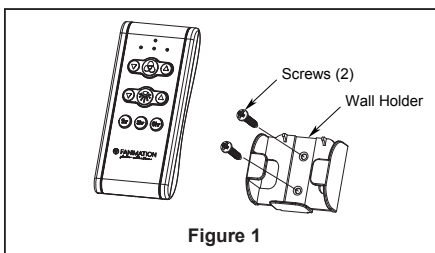

Figure 1
- ☐ **1. Installing Wall Holder:** (Figure 1)